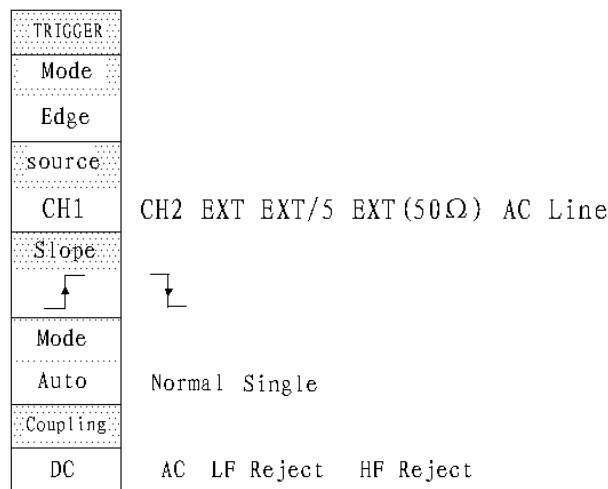

Figure 2-12
- a、 Edge: Edge trigger can be used in analog and digital circuit analysis. An edge trigger occurs when the trigger input passes through a specified voltage level in the specified slope direction (rising or falling). See Fig. 2-12.